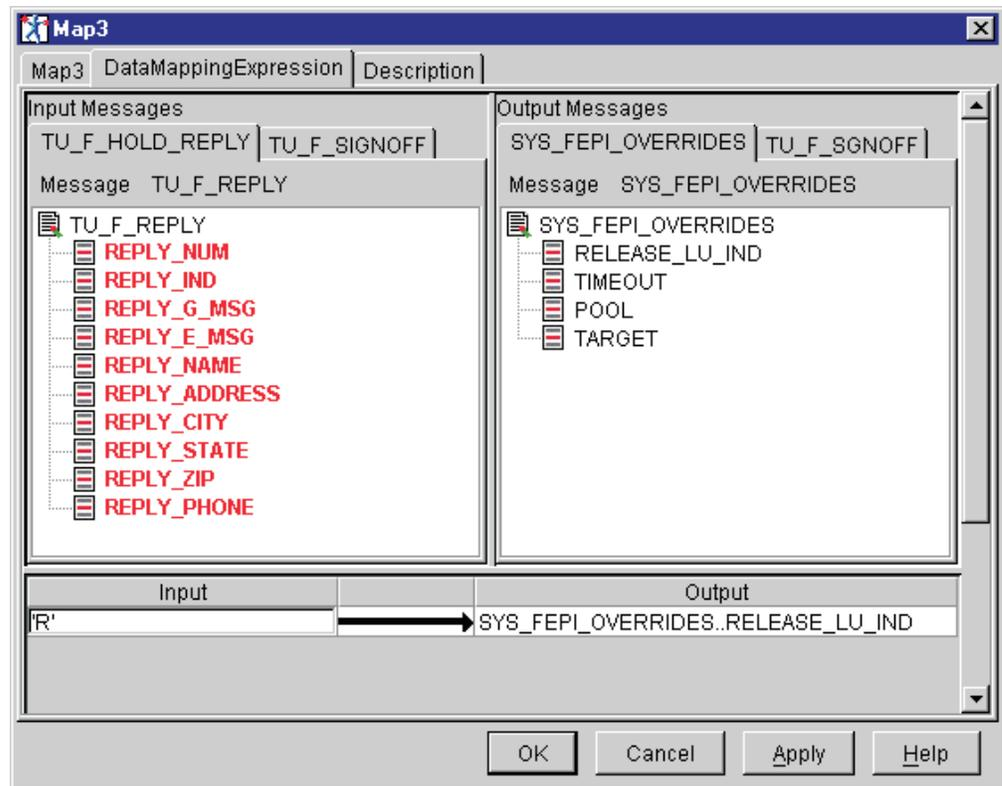

Figure 170. Mapping for Map3 node (SYS\_FEPI\_OVERRIDES message)
- 3) Perform the mapping for the Map3 node as shown in Figure 170 on page 219 .
- a) Perform a literal mapping. Under the SYS\_FEPI\_OVERRIDE Output Messages tab, right click on the RELEASE\_LU\_IND field and select **Add element**. This will create a mapping that is labeled LITERAL on the input field. Double click on LITERAL field and rename it to 'R' (quotes must be used). Refer to Figure 170 on page 219.